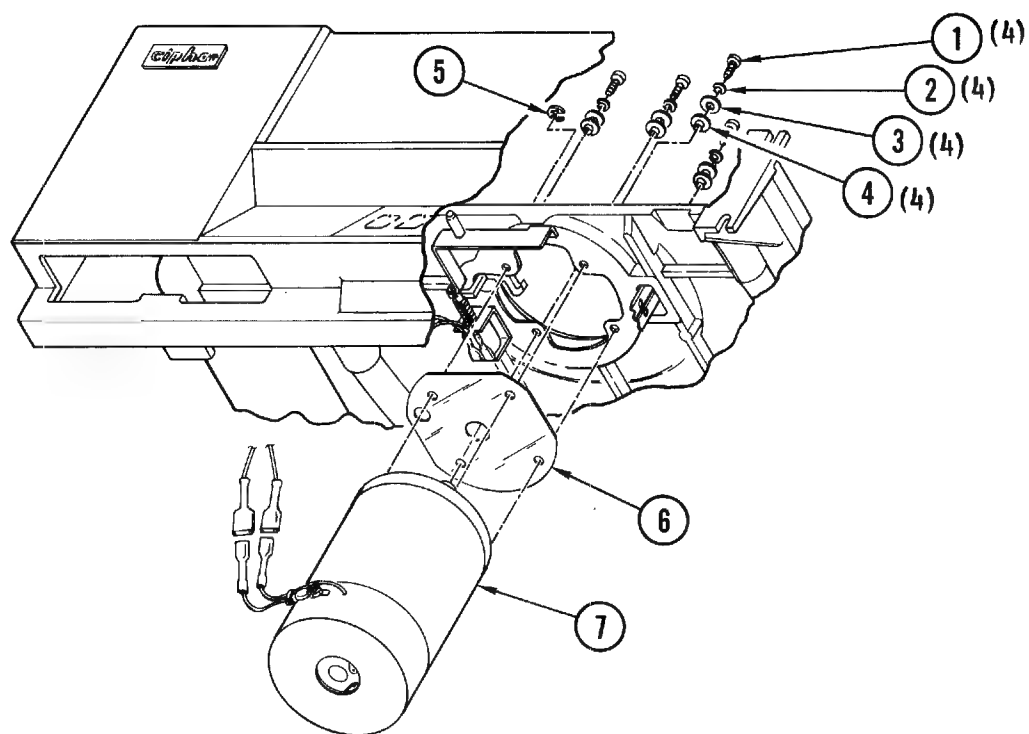

Figure 4-28. Supply Motor Assembly
**4-44. Removal and Replacement (Figure 4-28).** Place transport in service access position, in accordance with instructions in paragraph 4-3, and remove and replace the supply motor assembly as follows:
- d. Remove bell crank retaining ring (5, Figure 4-28).
- e. Remove screw (1) lockwasher (2), flatwasher (3), shoulderwasher (4), and insulator (6), holding motor (7) as last screw is being removed.
- f. Lower motor (7) from top plate, simultaneously slipping bellcrank off post on top of motor.